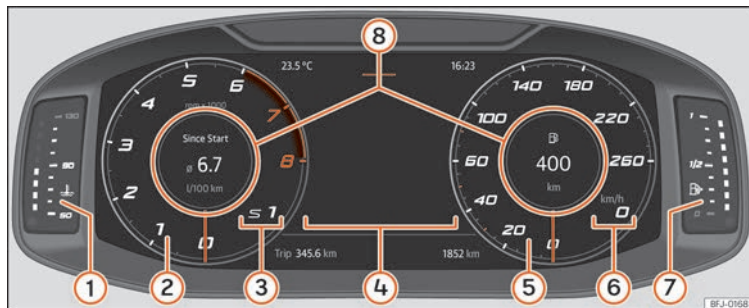

Fig. 68 SEAT Digital Cockpit on the instrument panel (classic view).
In the **Classic** and **Navigation** views it is possible to customise the information displayed under **Information profiles** »» **Fig. 68** ⑧.
»» Fig. 68.